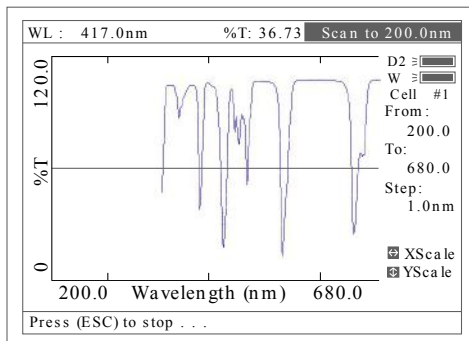
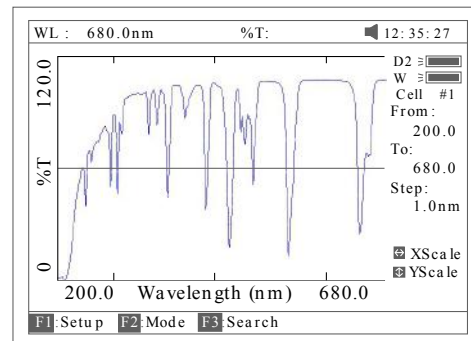

Fig 45
Fig 46
- Pull the sample cuvette into the light path, press **[START]** to scan the sample (Fig 45) **[ESC/STOP]** to stop scanning. When scan has finished the beeper beeps 3 times (Fig 46).
Note: The report always is printed in Fig 46